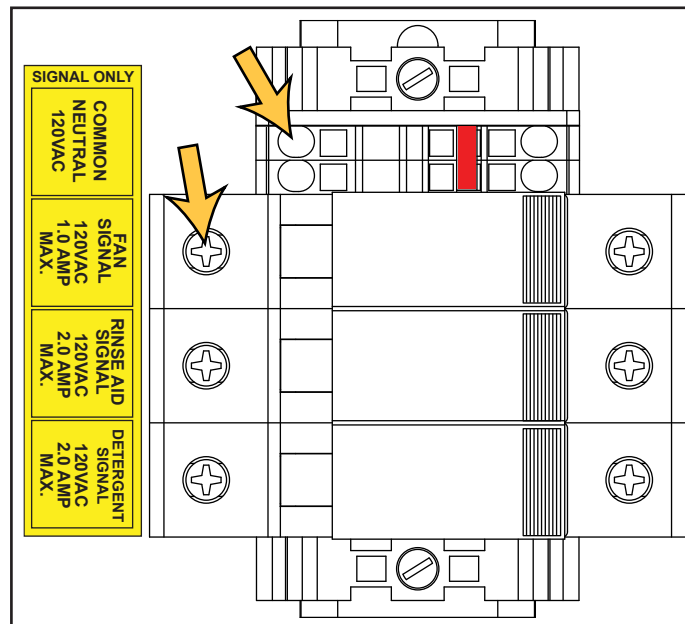

Fig. 25 - Vent fan signal connection
4. Connect the other wire to a COMMON NEUTRAL terminal (see Fig. 25).